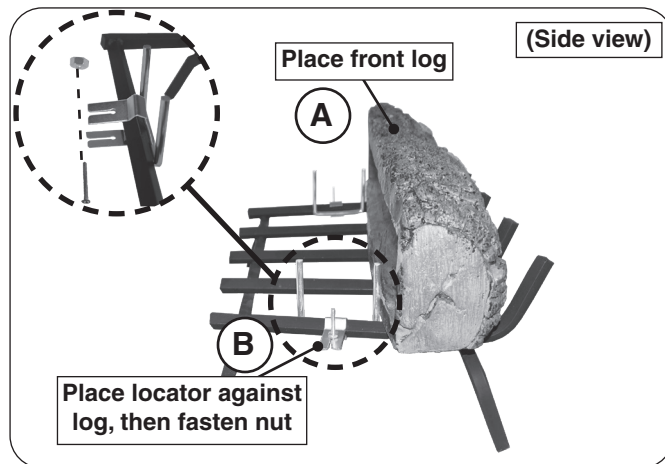
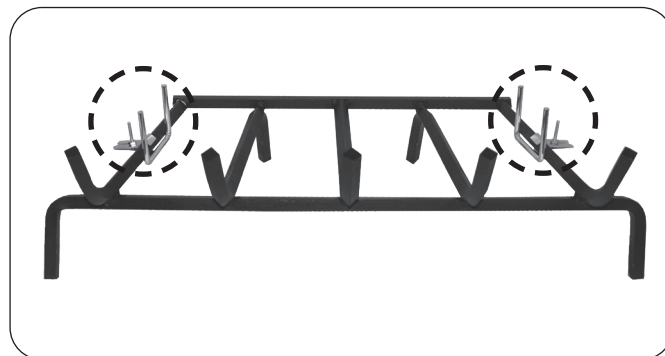

Fig. 19-1 Attach log locators to grate
Fig. 19-2 Log locators attached to grate
1. Locate the grate (outside of the fireplace) and attach the log locators to the 2 outer bars of the grate using the provided screws and nuts (see Fig. 19-1 and Fig. 19-2).
Temporarily place the front log at the front of the grate, to correctly determine the log locator position. Place the log locators on the middle of the outer bars with screw slots facing outward. Slide the log locators up against the rear of the front log. Tighten the log locators in place. See Fig. 19-1.